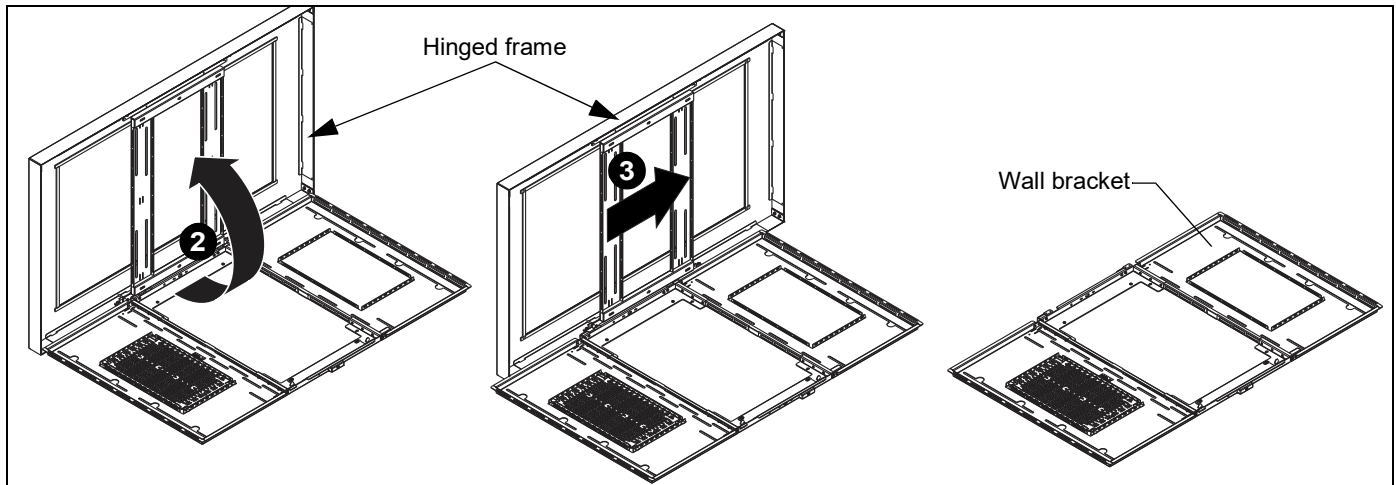

Figure 1
1. Remove kiosk from the packaging and place on a flat surface. (See Figure 1)
3. Keeping the hinged frame at 90° slide the hinged frame about 1 inch towards top of kiosk until hinge pins clear the hinges, and move the hinged frame away from the wall bracket. (See Figure 1)